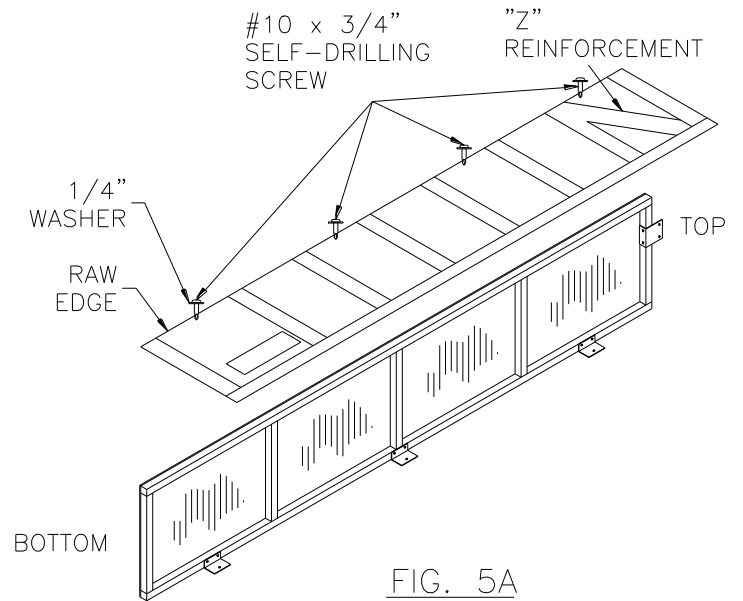

FIG. 5A
- **Place bottom of Vertical Panel flush with bottom of Vertical Frame** (Figure 5a).
- **Secure** Vertical Panel between stays with three (3) other evenly spaced #10" self-drilling screws and 1/4" washers.